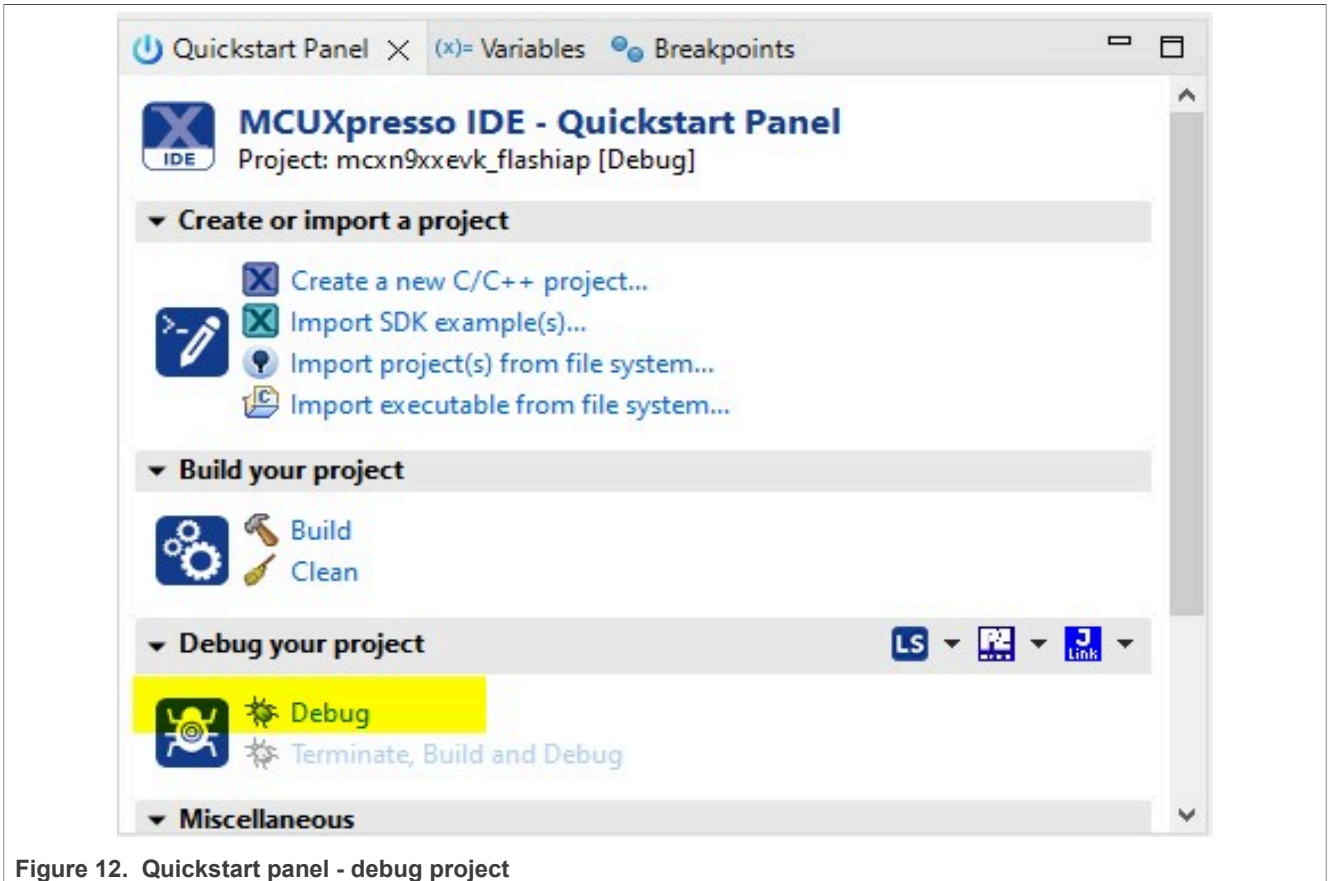

Figure 12. Quickstart panel - debug project
8. Click **Debug**, see Figure 12.